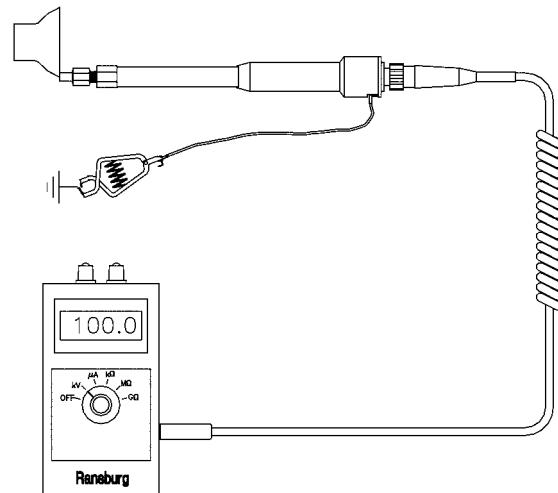

Figure 8: Measuring High Voltage On Bells or Disks
8. Make and maintain sure contact between the test probe and the applicator (see Figure 8).
- Ensure that the applicator is **NOT** rotating when contacting it with the probe. Also, to get proper readings on resistive applicators, the probe must be placed in contact with the atomizing edge of the bell or disk as shown in Figure 8. As this edge is sensitive to mechanical damage, use care when contacting it with the probe. Rough handling may cause damage to the applicator.